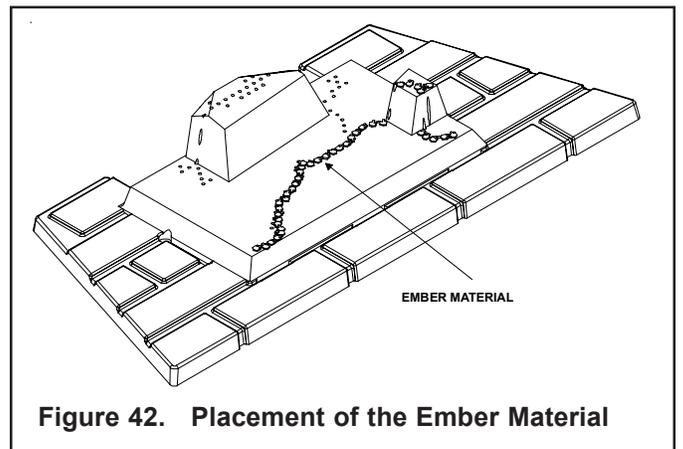

Figure 42. Placement of the Ember Material
- When placing Glowing embers onto the burner care should be taken so that the ports are not covered. Place the embers along side the port trail, but not on or in between the ports (see Figure 42). Failure to follow this procedure will likely cause lighting and sooting problems.